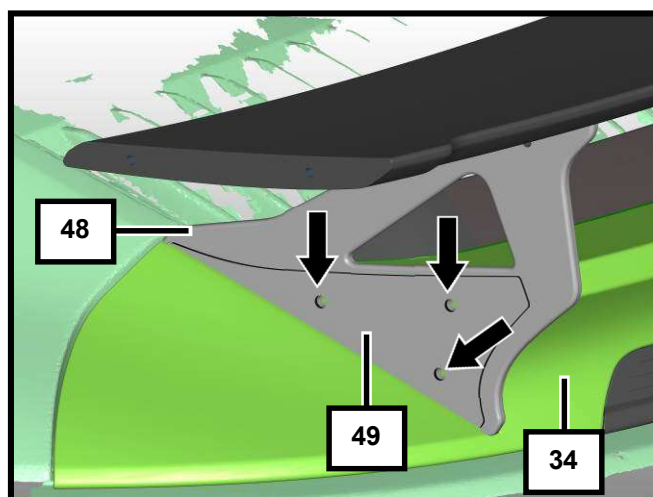

Fig. 61
- 61 Fasten the TECHART base (46) with the screws M8x60 through TECHART base frame (24) to the TECHART bracket base frame center (28), do not tighten, yet.
- 62 Align the TECHART rear spoiler and then tighten all 7 screws M8 (see position: arrows on fig. 61 and 62) using bolt adhesive. Tightening torque = 8 Nm